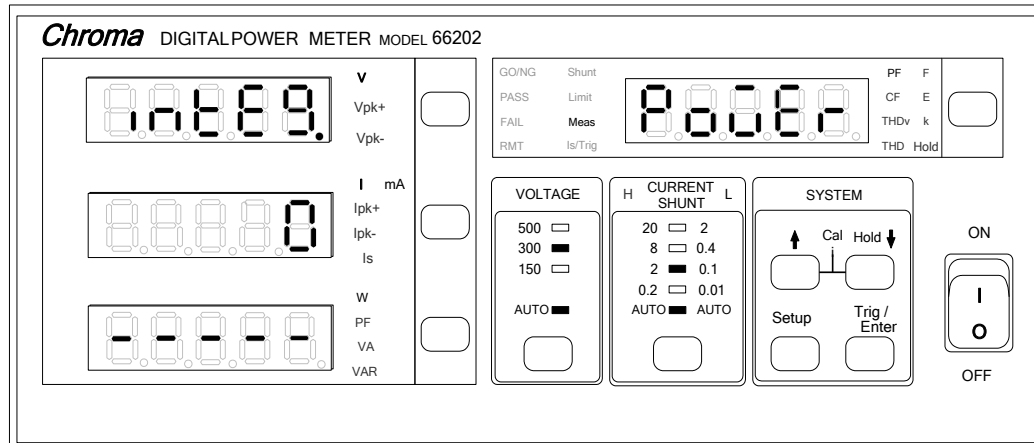

Figure 4-35 Setting Power
1. Press **Setup** to select Meas and the indicator of Meas is on. Figure 4-35 shows the setting of Power.